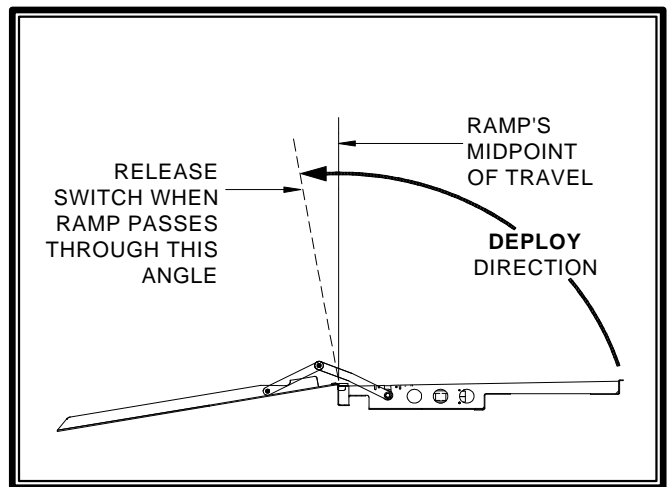

FIGURE 3-2: RAMP MIDPOINT (DURING DEPLOY)
- 2) Refer to **Figure 3-2**. Toggle the ramp control switch to the deploy position. Hold switch in deploy until the ramp has passed its midpoint (vertical position), then release switch; after the ramp has passed through the midpoint it will lower to the ground without assistance.